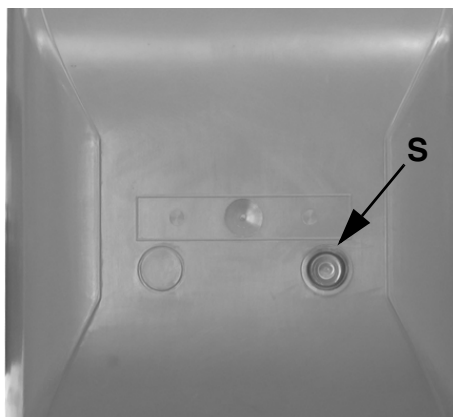

Fig. 37
- Make sure that the control box is not in shutdown condition and if so, release by using the release button **S** on the burner cover (see Fig. 37).
| S | Reset pushbutton (Fig. 37)                |